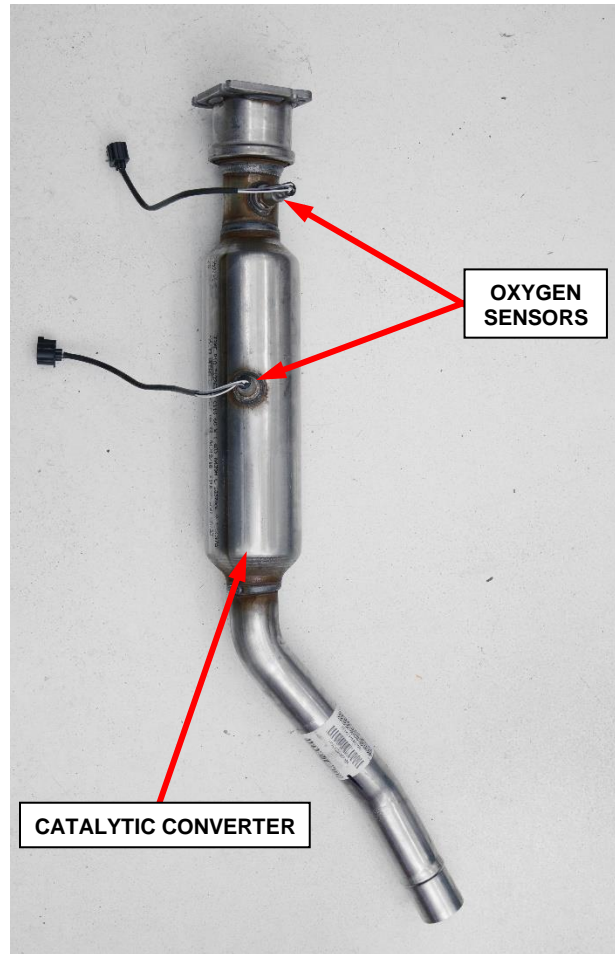

Figure 13 – Catalytic Converter with Oxygen Sensors Installed
22. Install the new upstream and downstream oxygen sensors into the new catalytic converter. Tighten the new oxygen sensors to 41 N·m (30 ft. lbs.) (Figure 13).